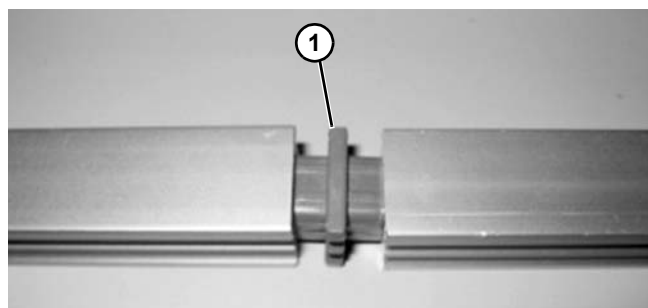

Figure 109
1. Connecting plugs (**Figure 109, item 1**) are pressed into two guide rail ends with soft hammer.